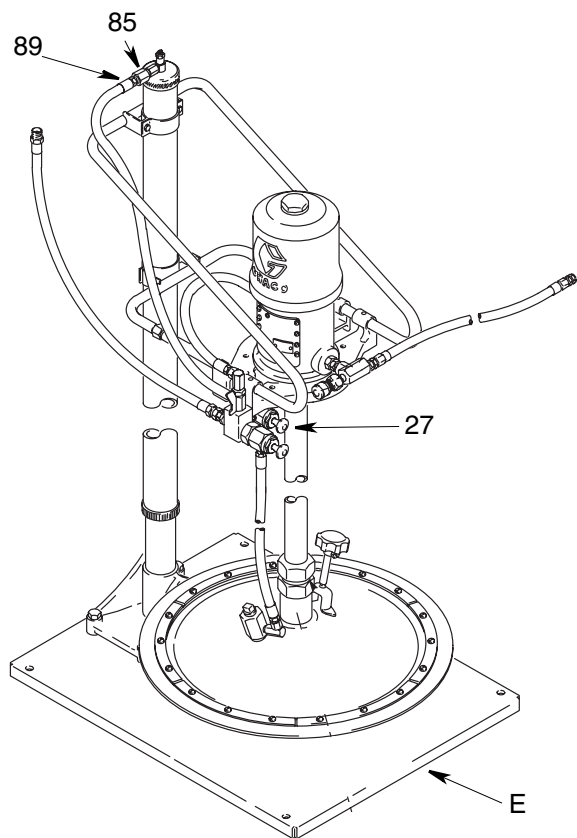

FIG. 8
1. Remove the plug from the top of the elevator cap and screw it into the air inlet (E) in the elevator base. (FIG. 8)
1. Screw the restrictor valve assembly (42) into the elevator cap.
2. Screw the 1/4 x 1/8 npt adapter (85) into the restrictor valve. (FIG. 8)
3. Install the 1/4 x 3/8 npt adapter (89). (FIG. 8)
4. Connect one end of the 36 in. (914 mm) hose into the adapter and the other hose end into the snap-over valve's (27) union. (FIG. 8)